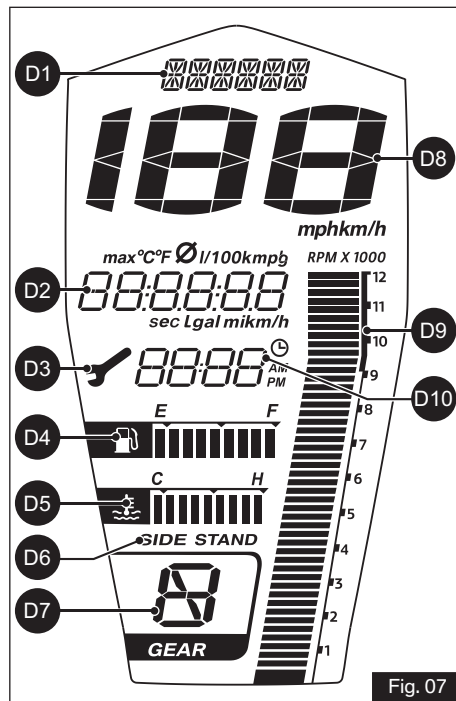

Fig. 07
D) Multifunction display (ref. Fig. 07)
### D1. Alpha numeric display (ref. Fig. 07)
### D2. ODO, Range, IMI, etc. (ref. Fig. 07)